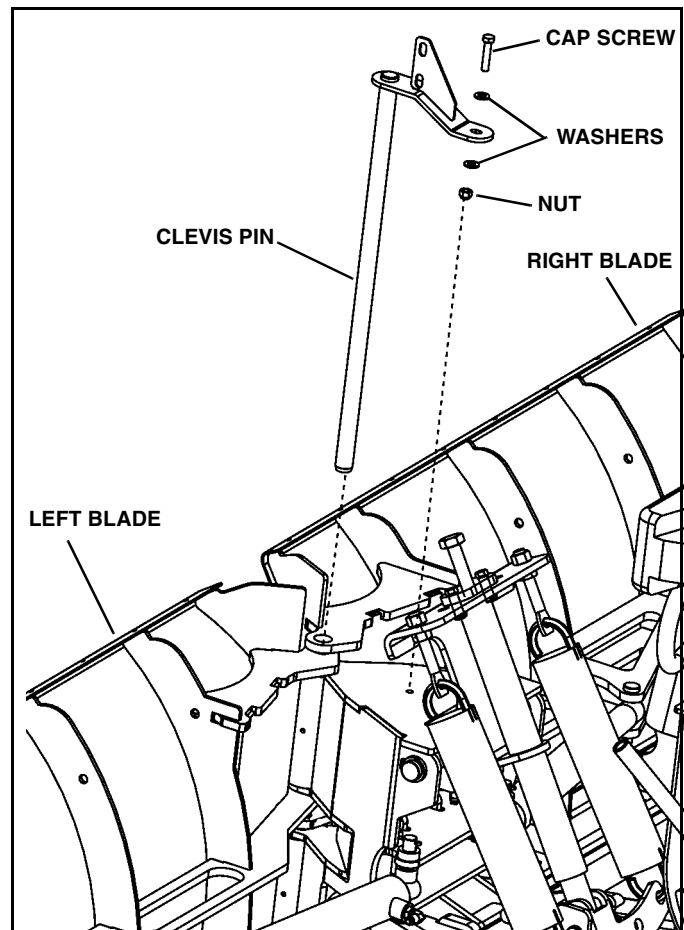

Figure 1-6
4. Coat clevis pin with grease and insert completely through the A-Frame and blade section pin holes. (See Figure 1-6).